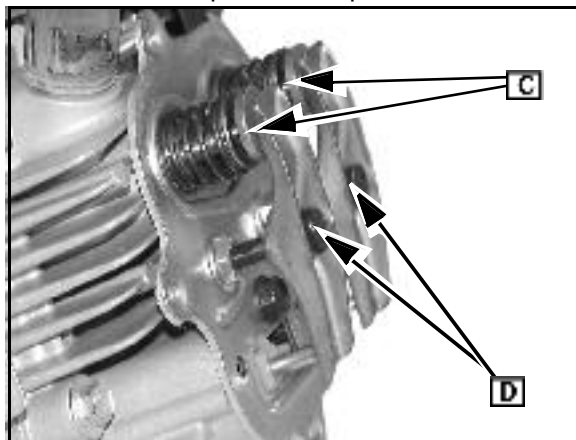

Fig. 33
3. Place valve caps ([C] Fig. 33), (when used) on end of valve stems.
4. Place rocker arms on studs. Install rocker arm nuts (D) and screw while holding rocker arm against valve cap ([C] Fig. 33).